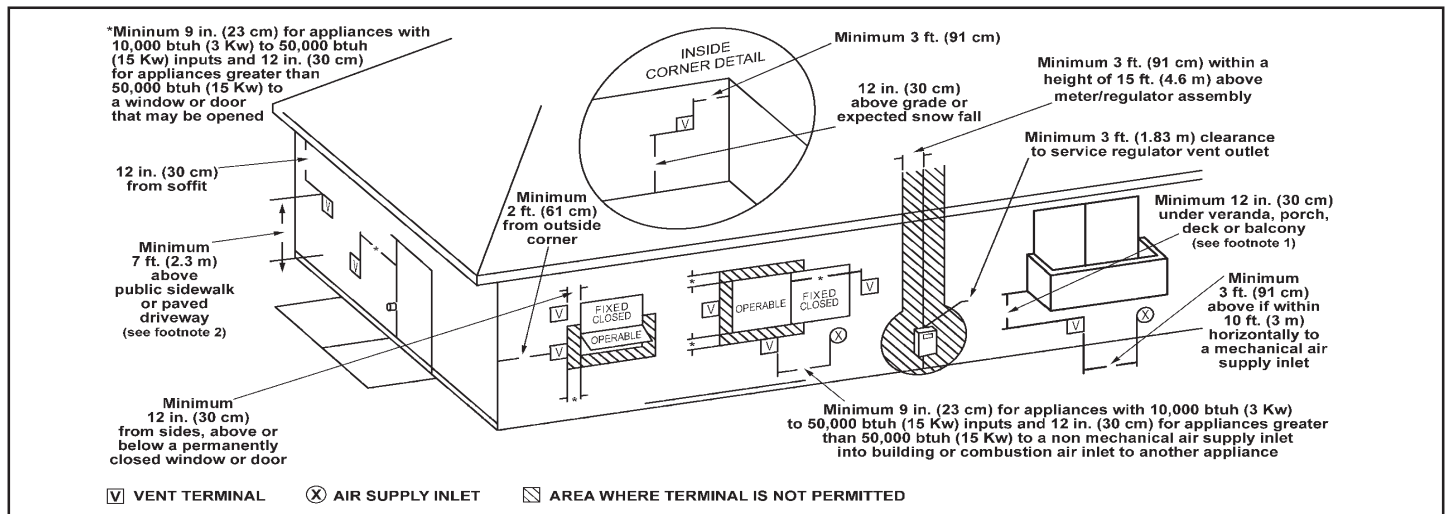

FIGURE 8 - DIRECT VENT TERMINAL CLEARANCES - US INSTALLATION
- The Power Direct Vent outlet terminal shall terminate a least 36" (91 cm) above any forced air inlet located within 10 feet. See Figure 8.
- The Power Direct Vent outlet terminal shall terminate at least 36" (91 cm) below, 36" (91 cm) horizontally from or 18" (46 cm) above any door, window or gravity air inlet into the building. See Figure 8.